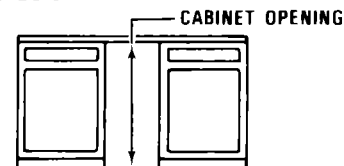

FIGURE 10
8. Before moving the compactor into position, measure the cabinet opening as shown in *Figure 10*. To determine if height adjustment is required, see steps 9 and 10 below.